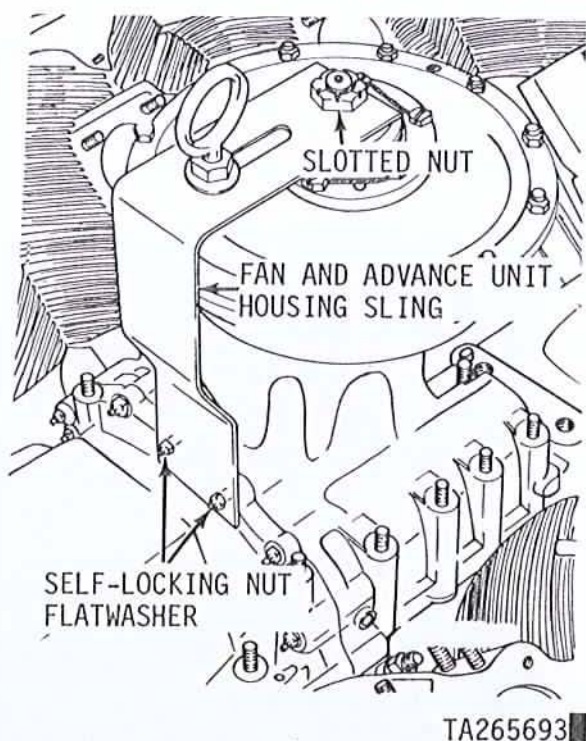

Figure 3-90. Removing or installing rear fan drive housing using fan and advance unit housing lifting sling.
c. Position fan and advance unit housing lifting sling — Part No. 10882945 (fig. 3-90) on rear fan drive housing and clutch assembly and secure lifting sling to rear fan and accessory drive housing with two self-locking nuts and flat washers (3, fig. 3-89). Secure lifting sling to fan vertical drive shaft with cooling fan attaching slotted nut. Adjust lift-